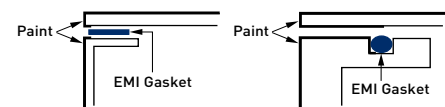

Figure 8. Non-Conductive Paint Intrudes Slightly Under Gasket to Provide Edge Protection
3. To prevent corrosion on outside edges exposed to severe corrosive environments, use dual conductive/non-conductive gaskets or allow the non-conductive protective paint (normally applied to outside surfaces) to intrude slightly under the gasket (see Figure 8).